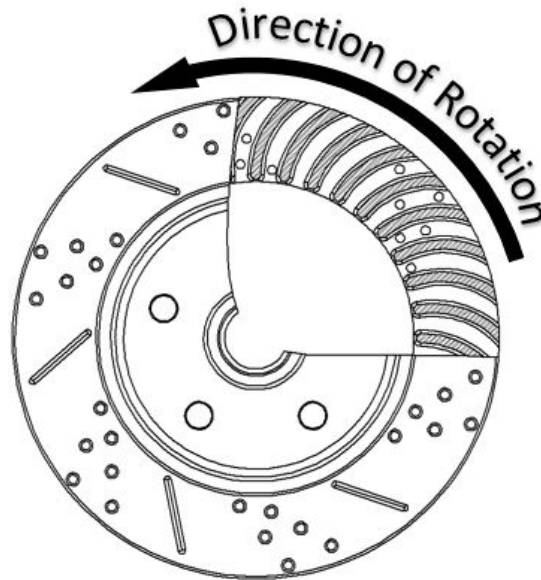
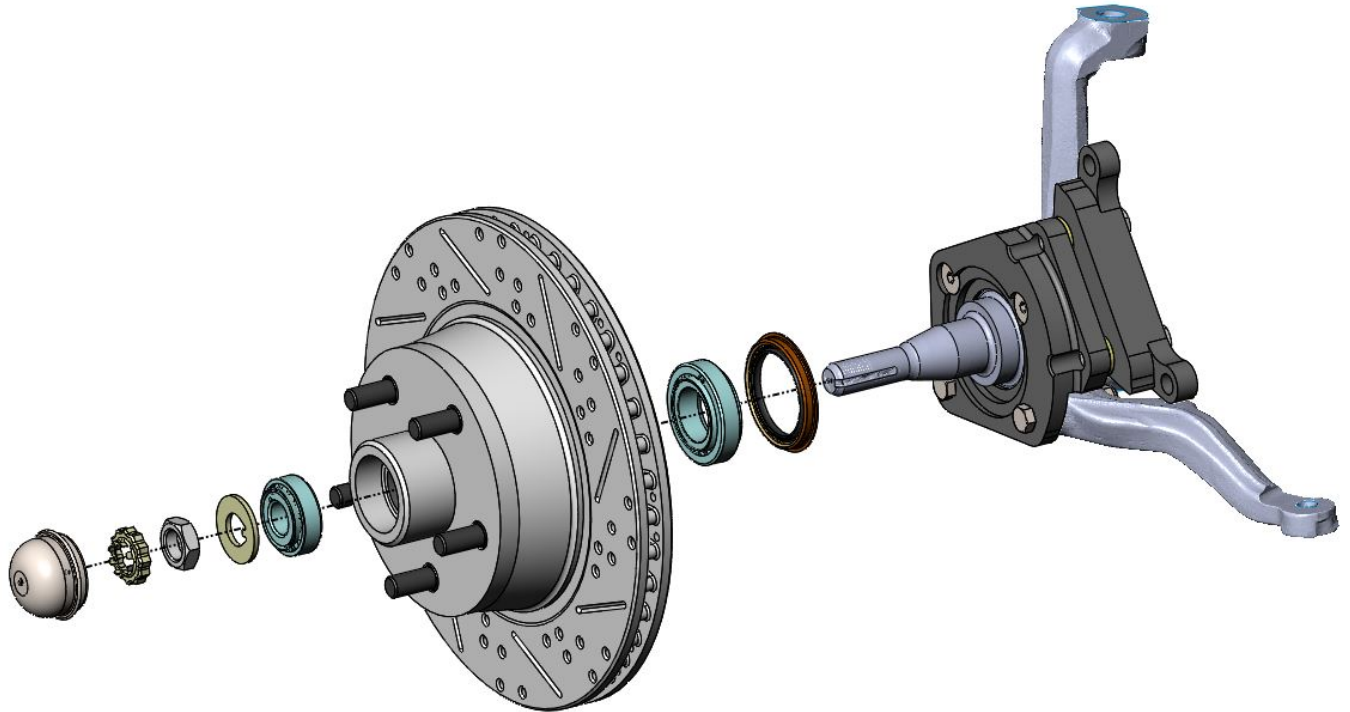

Figure 4 – Direction of Rotor Rotation
Figure 5 – Rotor Installation (Spindle not correct for application. Shown for reference only.)
7. With the brackets assembled on the spindle, slide the rotor onto the spindle. The new rotors come with premium bearings pre-installed and packed with Red Line Synthetic wheel bearing grease. **NOTE:** It is not necessary to add more grease. Apply a small amount of grease to the hub sealing surface and install the rotor assembly. Using the new castle nut along with the nut retainer, tighten the nut to 5-10 ft/lbs. Loosen the nut and tighten the nut again using the same 5-10 ft/lbs. Do this a couple of times spinning the rotor to fully seat the wheel bearings onto the spindle. Loosen the nut a final time and re-tighten to remove all play. Tighten approximately an additional $1/16^{\text{th}}$ of a turn to give the appropriate pre-load and line up the cotter pin hole. Install the cotter pin and dust cap. See Figure 4 below for correct placement of left and right rotors and Figure 5 on the next page for additional information on the rotor installation.